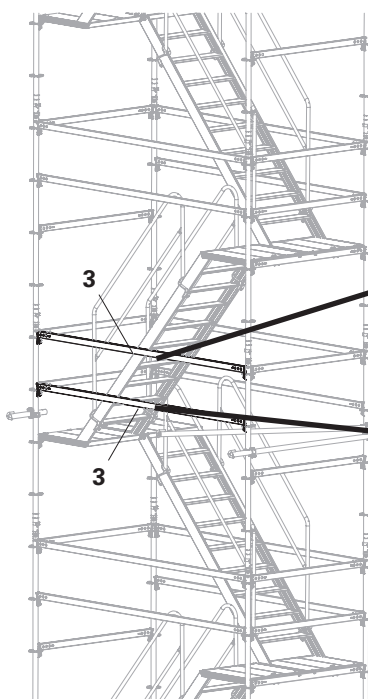
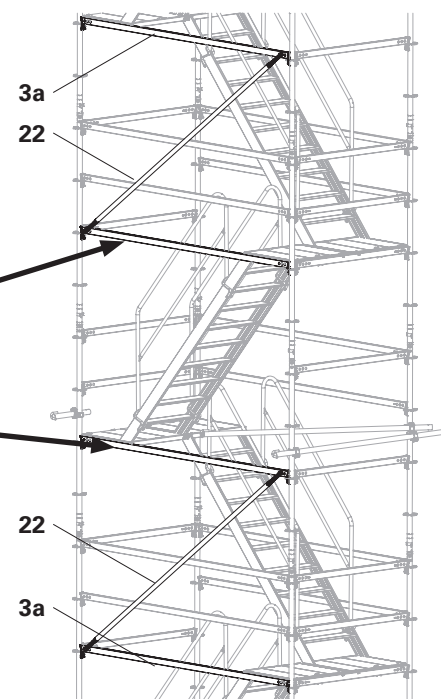

Fig. B.7.01
Fig. B.7.02
- Fit Ledger Braces UBL-2 (**22**) onto the floors above and below. (Fig. B.7.01 + Fig. B.7.02)